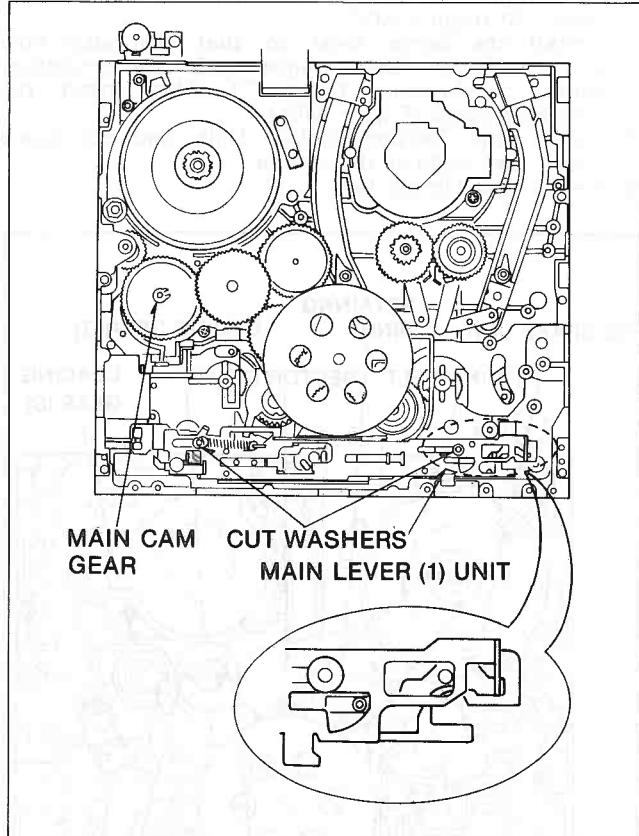

Figure M49
- Install the Main Lever (1) Unit and then insert the cut washers and hitches the spring as shown in Figure M49.